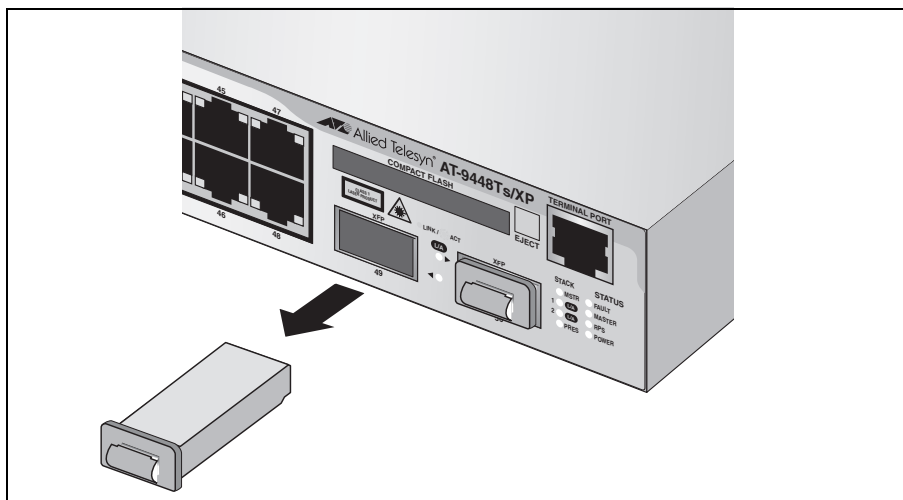

Figure 34. Removing an XFP Dust Plug
1. Remove the dust plug from a transceiver slot on the switch. Refer to Figure 34.